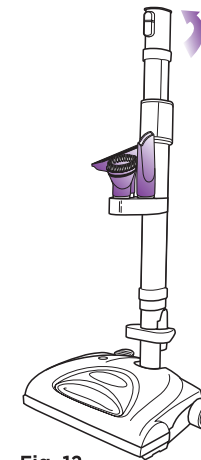

Fig. 12
- 4 Store the telescopic tube attached to the power nozzle in the upright position with the accessories on the holder. (Fig. 12)